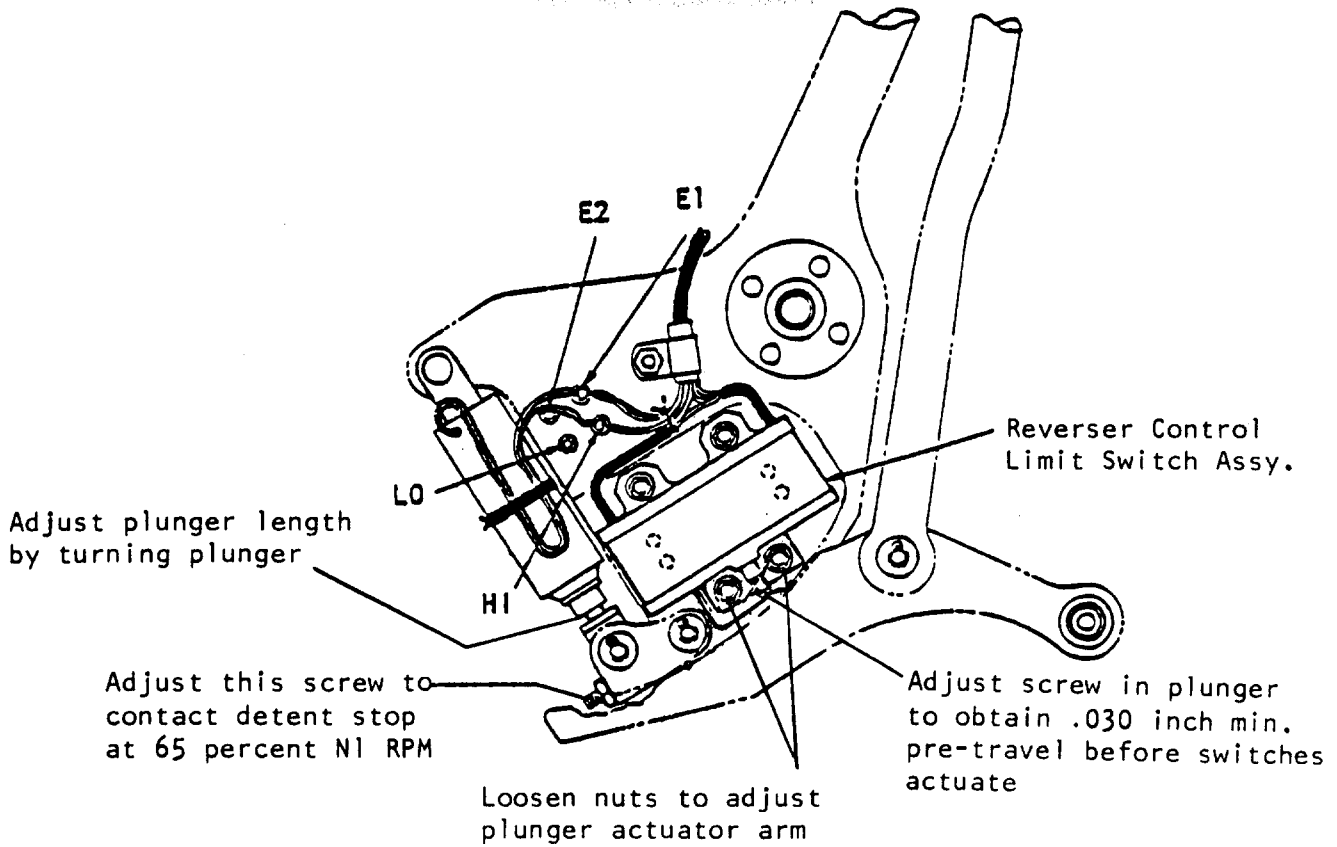
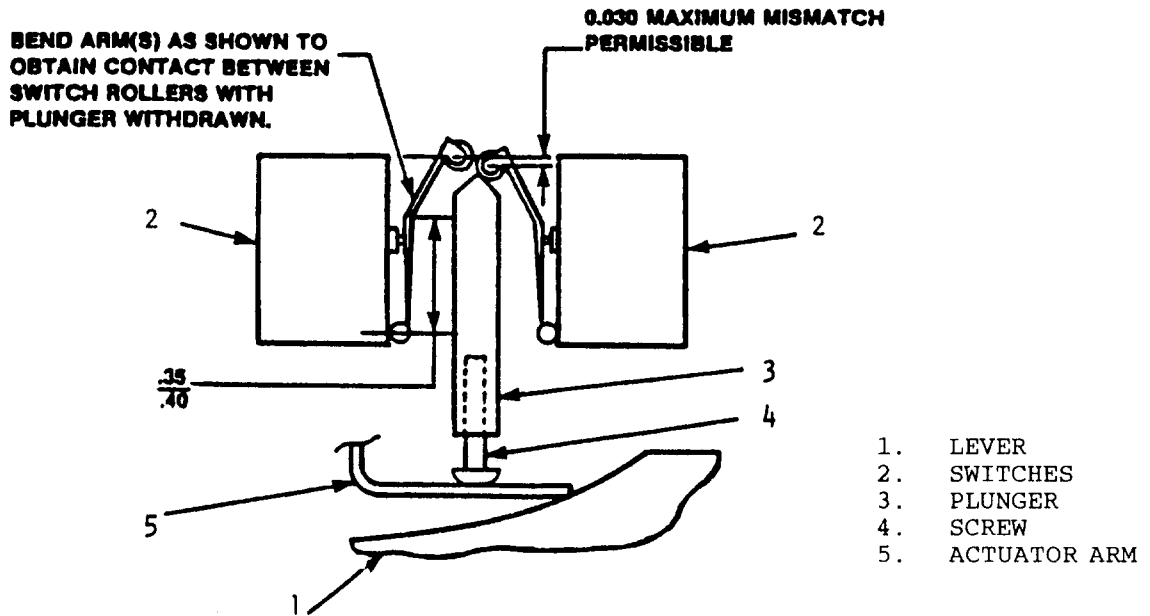

Figure 203 - Reverser Control Adjustments
Figure 204 - Actuating Switch Adjustment
- (1) With the lock-out solenoid de-energized, adjust the length of the lock-out solenoid plunger (see Figure 203) to ensure that the stop lever rides the inboard cam surface of the control lever.
- (2) With the reverse lever raised to the interlock position, depress the "Flasher Test" switch with power applied to the aircraft electrical system. The lock-out solenoid should energize and retract the stop lever to now allow the reverse lever to be raised to "Max Reverse". Adjust length of lock-out solenoid plunger if necessary to allow stop lever to just clear the "Reverse Idle" detent.
- (1) Refer to Paragraph 4.B (10), (12), and (13) and Figures 203 and 204 for adjustment procedure.
- (6) Carefully remove potting from the stand-off terminals E1, E2, HI and LO, see Figure 203.
- (7) Tie wires of replacement solenoid around the barrel as shown in Figure 203.
- (8) Locate replacement solenoid on throttle assembly and secure with hardware removed in Step (5) using new cotter keys.
- (9) Refer to Figure 203 for wire routing and 78-30-00 Figure 101 connection data. Use solder conforming to Federal Specification QQ-S-571 (Non Flux Type 60-40) and minimum necessary heat to attach wires to appropriate stand-off pins.
- (10) Pot terminals E1, E2, HI and LO using silicon rubber per specification MIL-S-23586C, Type III, Class II, Grade A, or equivalent. Allow potting to cure before proceeding to the next step.
- (9) Refer to Figure 204 for switch actuating arm dimensional data and install the switches (23) and actuator (22) into the switch housing (16) using the four screws (21).
- (10) Position the plate (15) on the switch housing (16) and slip the plunger (18 & 19) through the plate into the housing insuring it freely. Observe through the top of the switch housing that the beveled edges of the plunger contact the switch actuating arm rollers as shown in Figure 204 and install plate (14). Locate the plunger actuator (17) against the plate (15) and while holding the plunger position, temporarily secure the assembled parts to the control lever using screws (11), washers (12), and nuts (13).
- (11) Install attaching hardware for electrical harness previously removed in Step 4.
- (12) Adjust the plunger assembly (18 & 19) to obtain the pre-travel specified in Figure 203. Accomplish adjustment by removing assembled switches/housing/plates/actuator from the control lever and adjusting the position of the screw (18) as required. Repeat as necessary until specified pre-travel is obtained.
- (13) Adjust the plunger actuator arm (fore and aft position) to obtain switch actuation (two audible clicks) as soon as possible after releasing the reverser latch and slowly raising the reverser lever toward the interlock position. Tighten and torque attaching hardware after adjustment.
- (14) Locate throttle assembly onto friction lock in quadrant and install plate (2) with screws (1) removed in Step 2.
- (15) Install throttle assemblies into center pedestal per Paragraph 2.B.